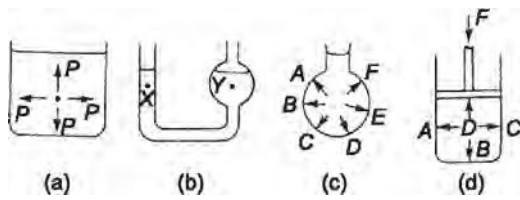

Figure 23.1
- The pressure at a given depth in a fluid is equal in all directions; see Figure 23.1(a).
- The pressure at a given depth in a fluid is independent of the shape of the container in which the fluid is held. In Figure 23.1(b), the pressure at X is the same as the pressure at Y.
- Pressure acts at right angles to the surface containing the fluid. In Figure 23.1(c), the pressures at points A to F all act at right angles to the container.
- When a pressure is applied to a fluid, this pressure is transmitted equally in all directions. In Figure 23.1(d), if the mass of the fluid is neglected, the pressures at points A to D are all the same.